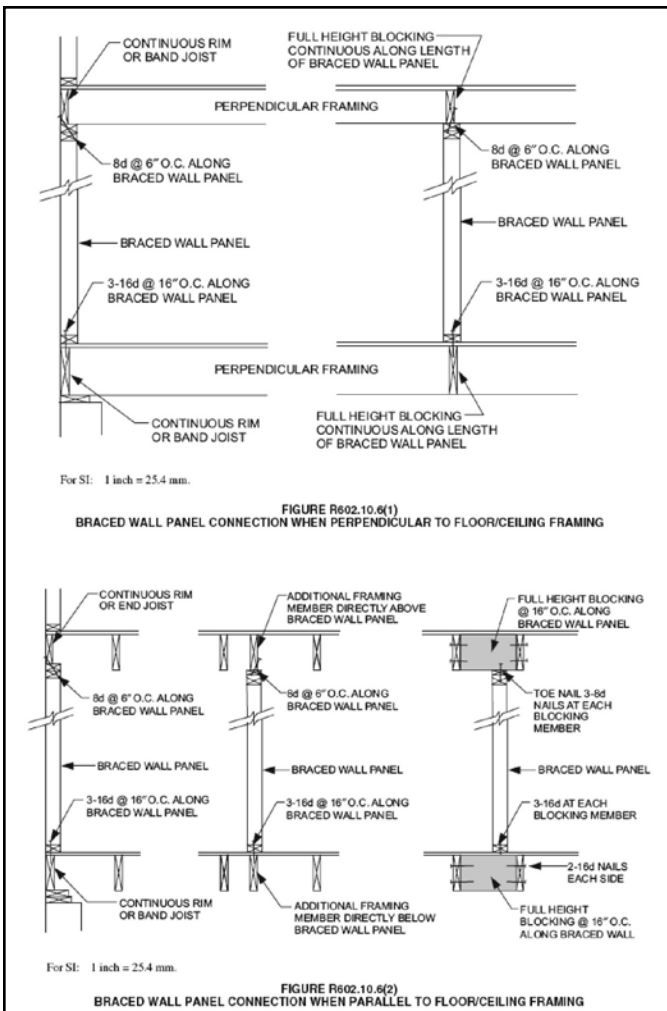

Figure 1. 2009 IRC braced wall panel connection options when perpendicular and parallel to the floor/ceiling framing.
Figures R602.10.6(1) and R602.10.6(2) are shown in Figure 1. They illustrate the connection requirements for a floor system using dimension lumber joists for the conditions where the braced wall panels are perpendicular and parallel to the floor framing, respectively.